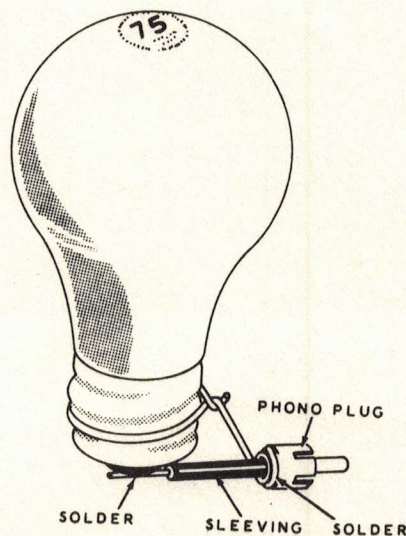

Figure 2
- () Attach a resistive type dummy load to the antenna connector on the low-pass filter. The Heathkit Cantenna Transmitter Dummy Load is such a type. If this type dummy load is not available, a dummy load constructed of a light bulb can be made as shown in Figure 2. The light bulb type dummy load may not work properly on all bands and therefore it is not recommended.